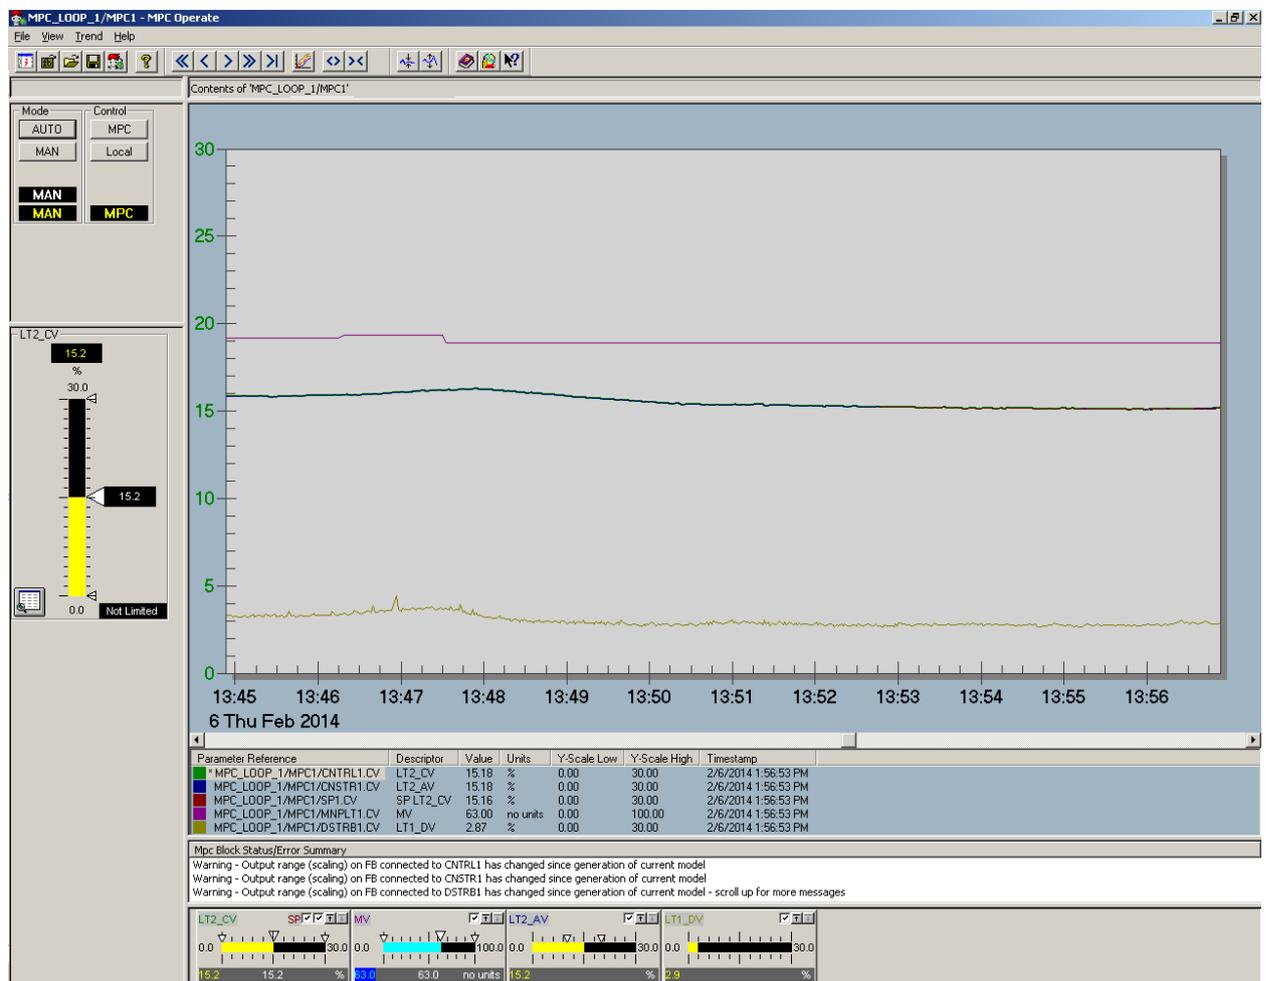

Figure 3.4 Adjusting level manually in MPC Operate.
Start by marking all the parameter check boxes in the bottom of the figure. Click on the manipulated variable (MV). At the left side a slide-bar for the parameter is then shown. Adjust the slide-bar so that the level gets steady and about 15 cm, see Figure 3.4.